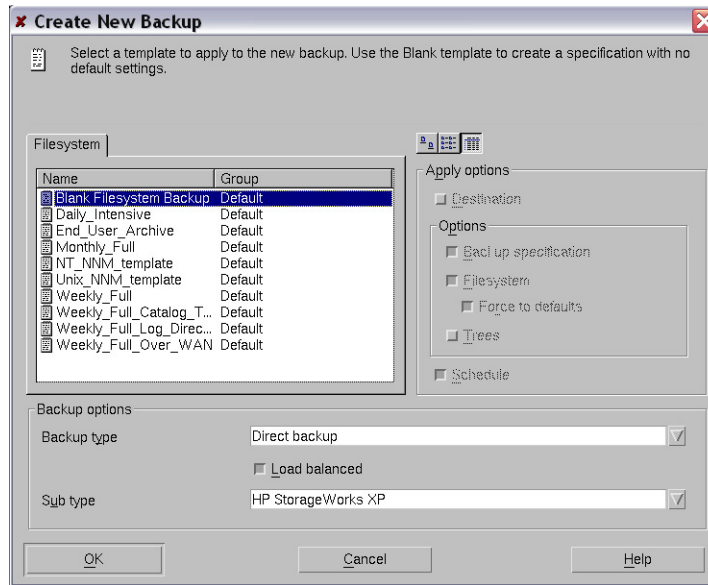

Figure 11: Selecting a backup template and backup options
- Select the Blank Filesystem Backup template (see Figure 11).
- Choose **Direct Backup** as the **Backup type** (see Figure 11).
- Choose **HP StorageWorks XP** as the **Sub type** and click **OK** (see Figure 11).